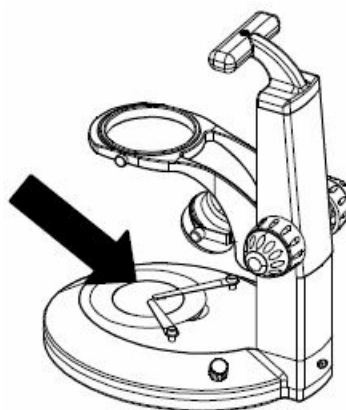

Figure 1
1. Place the microscope base on a flat, firm surface and position the frosted stage plate on the base. (Figure 1)